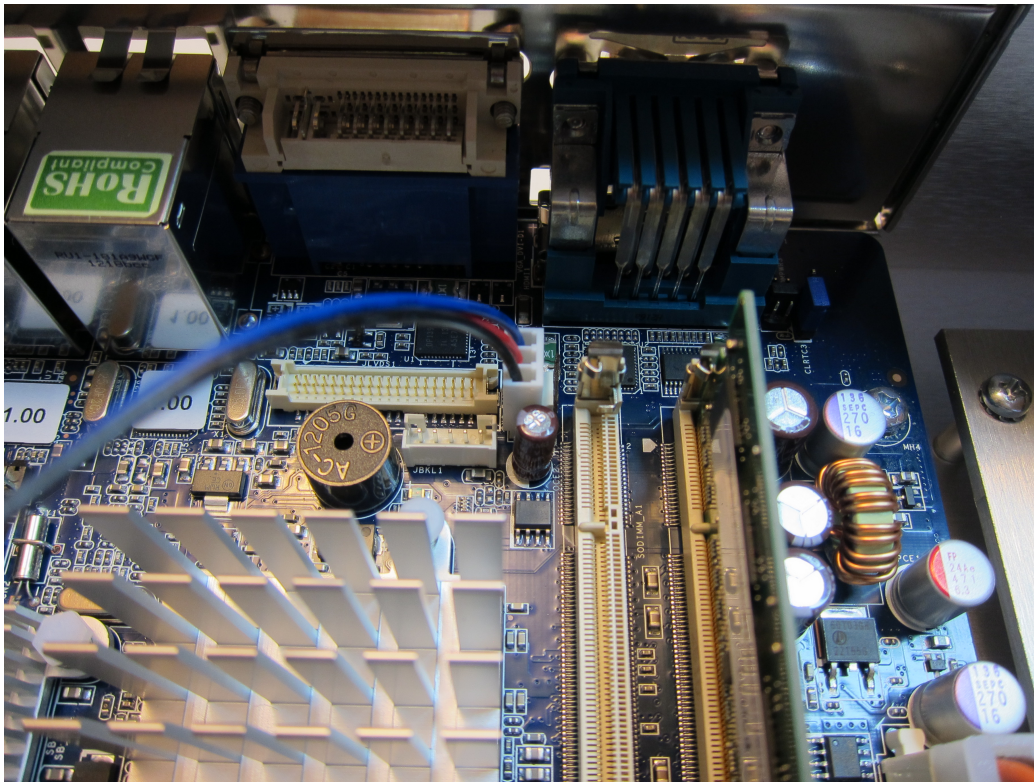

Figure 42: Chassis fan cable connected to SYS_FAN1.
10. Connect the chassis fan to SYS_FAN1 connector on the motherboard, refer to Fig. 42.